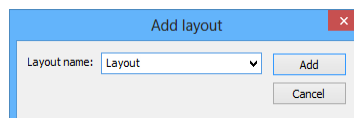

Figure 9 – Add layout dialog
2. Enter the name of the new layout in the displayed **Add layout** dialog (see Figure 9).